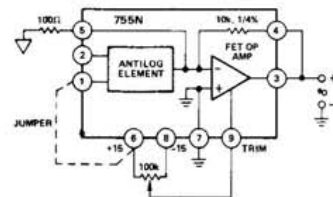

Figure 5. Trimming  $E_{OS}$  in Antilog Mode
**Offset Voltage ( $E_{OS}$ ) Adjustment** – Although offset voltage of the antilog circuit may be balanced by connecting it in the log mode, and using the technique described previously, it is more advantageous to use the circuit of Figure 5. In this configuration, offset voltage is equal to  $e_{out}/100$ . Adjust for the desired null, using the 100k trim pot. After adjusting, turn power off, remove the external 100 $\Omega$  resistor, and the jumper from pin 1 to +15V. For 755P, use the same procedure but connect pin 1 to -15V.